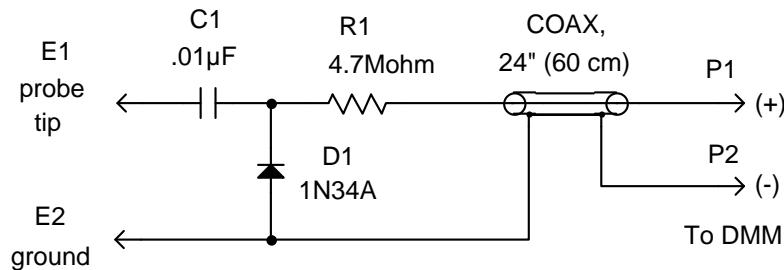

Figure 1
Your K2 kit includes a complete RF probe, including the PC board, coax, and connectors. **The switch spacing tool, which you used in assembling the Front Panel, doubles as the PC board for the probe.** The RF probe (Figure 1) converts RF signals to DC so they can be measured using a DMM. The DC readings on your DMM will be approximately equal to the signal voltage in Vrms (root-mean-square).
4. If you don't have an RF probe, you can build the one from Figure 1. **Note:** do not use the RF probe to directly measure the transmitter's power output unless you have the power set for 2 W or less. The 1N34A diode in the RF probe may be damaged at higher power levels.